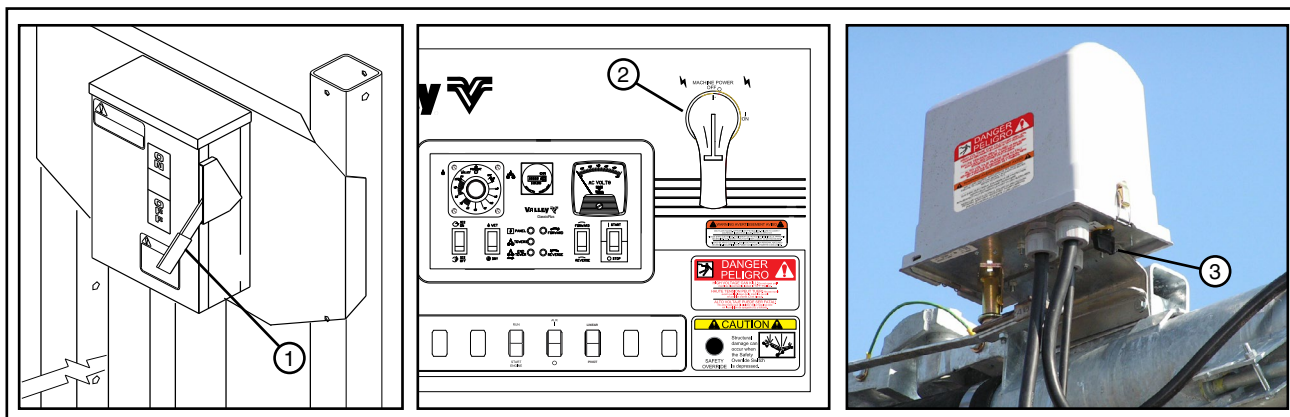

Figure 76-1 1. Main Service Disconnect Switch
- Main Service Disconnect Switch from public power to the control panel. See Figure 76-1.
- Control Panel Main Disconnect Switch. See Figure 76-1.
- Any Tower Box Disconnect Switch. See Figure 76-1.